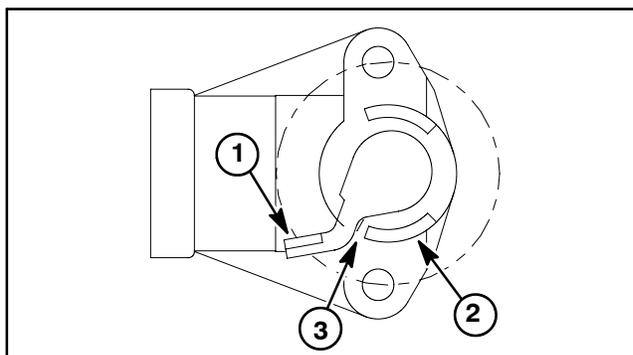

Figure 14
**NOTE:** The following adjustment procedure should be used on vehicles that have a potentiometer that includes a short lever (Figure 14). If potentiometer has a long lever, use the procedure on the following page.
- A. With the accelerator pedal released, the roll pin on the throttle position collar should keep the potentiometer lever from 0.050" to 0.100" (1.3 to 2.5 mm) from the lower stop on the potentiometer body (Figure 14).